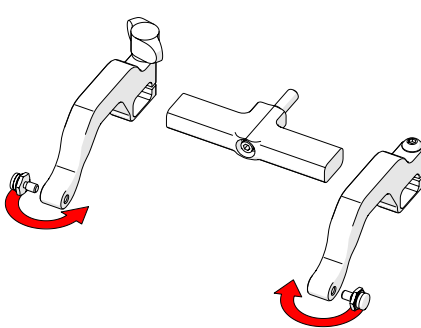

Fig. 46 - Position pivot buttons
5. Position the pivot buttons to the inside of the probe holder arms (Fig. 46).